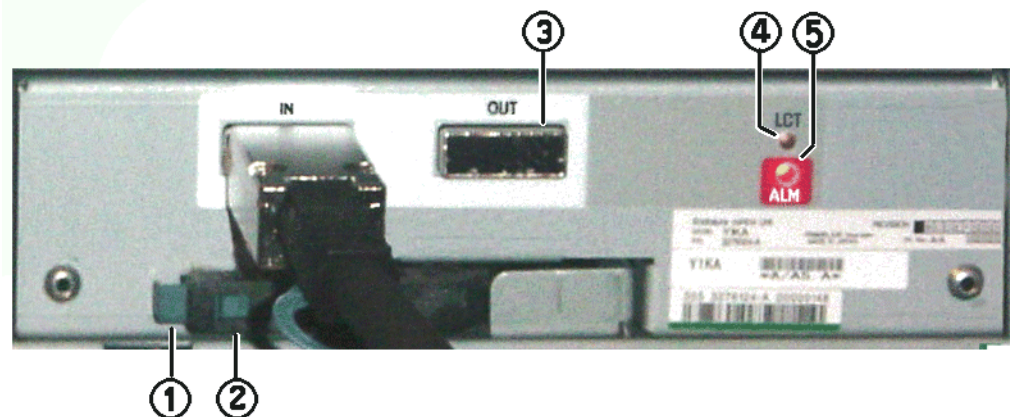

Figure 4-13: ENC Unit Controls and Connectors
1. Verify that the ENC unit has failed. Check that the red alarm LED on the ENC unit you are replacing is ON and that the orange LCT LED is OFF. Figure 4-13 shows the location of the LEDs.